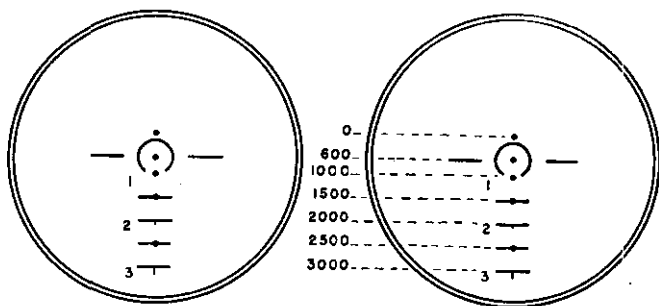

FIGURE 54.
3. In the sight picture (fig. 54), show which ranges correspond to each line (or dot).